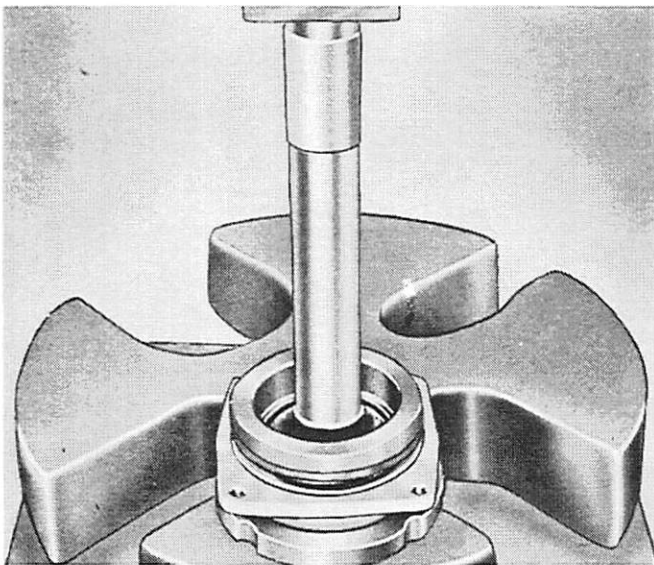

Figure 17. Installing End Cap Roller Bearing
1. Set roller bearing on end of Bearing Mandrel (91-24715A2) and press into upper end cap evenly between upper and lower openings. (Figure 17)